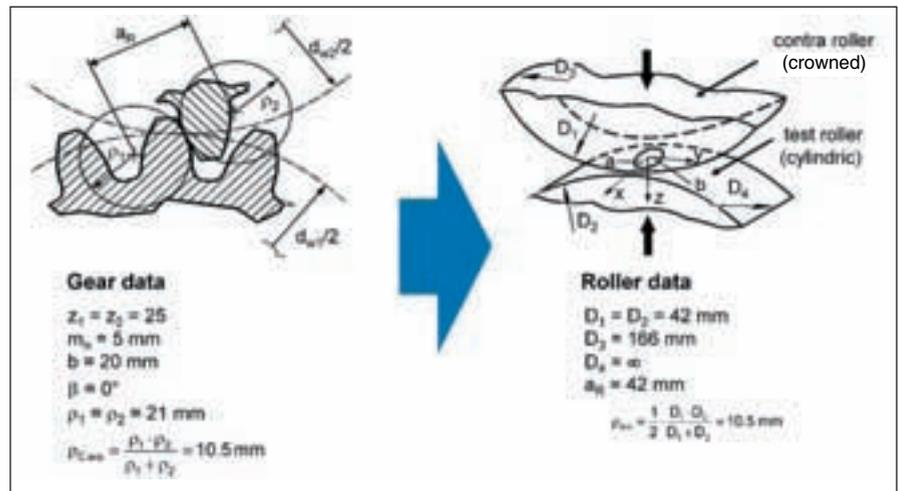

Figure 1—Geometry of gear flank and test roller.
**Roller test rig and geometry.** The roller geometry is derived from the contact conditions between two gear flanks. The roller radius is taken from the curve radius of the gear flank involute profile in the contact. In this example, the pitch circle was chosen as the basis for the determination of the roller radius. The outer diameter for both rollers is  $D_1 = D_2 = 42$  mm. The thermal-damaged test roller has a cylindrical shape. The contra roller is crowned in order to prevent wear in the area of the roller edges. In order to prevent edge pitting on the contra roller, a diameter in the axial direction of  $D_3 = 166$  mm is applied for crowning. Further data can be found in Figure 1.